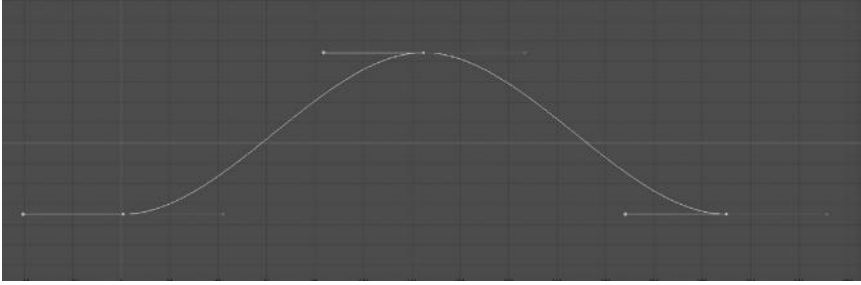

FIGURE 5.29 Flat tangents.
**Flat tangents**—Flat tangents maintain a completely horizontal level in and out of each keyframe, which creates a natural acceleration and deceleration curve (sometimes these are called “ease in” and “ease out.”) In Figure 5.29 you can see the flat tangents and how they create a natural speed up and slow down change of rate between the values of keyframes. Flat tangents are better for organic motion because of this ease in and ease out. However, if over-used they become as boring and predictable (and therefore unrealistic) as linear tangents.